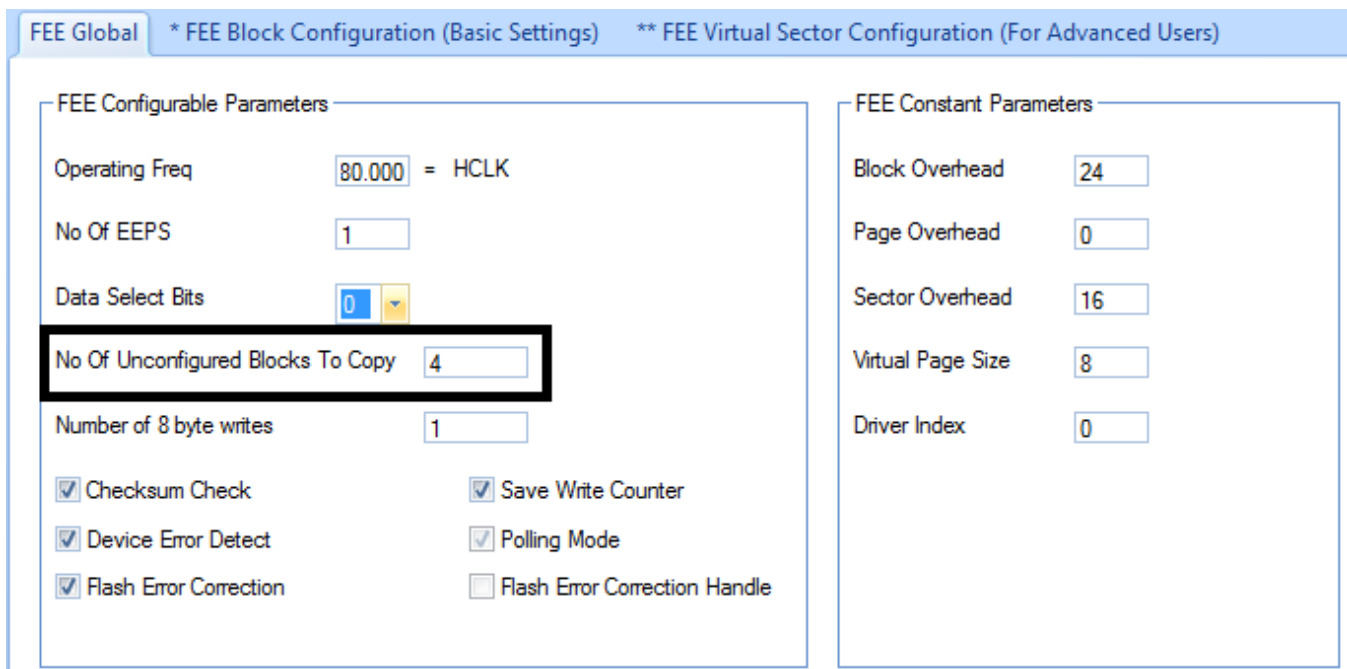

Figure 5. HALCoGen Configuration Parameters
5. Use the configuration parameters shown in Figure 5 in HALCoGen, if a TI FEE driver is used.